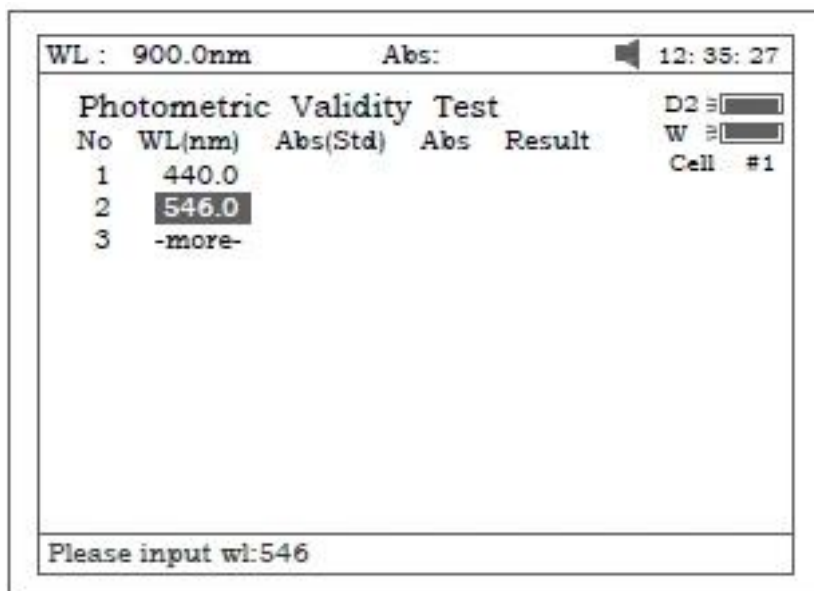

Figure 90
1. Press **【SETλ】** to set the wavelength. Press **【ENTER】** to edit and input wavelength by pressing the numeric keypad (Fig 90). **【ESC/STOP】** to finish inputting and exit.